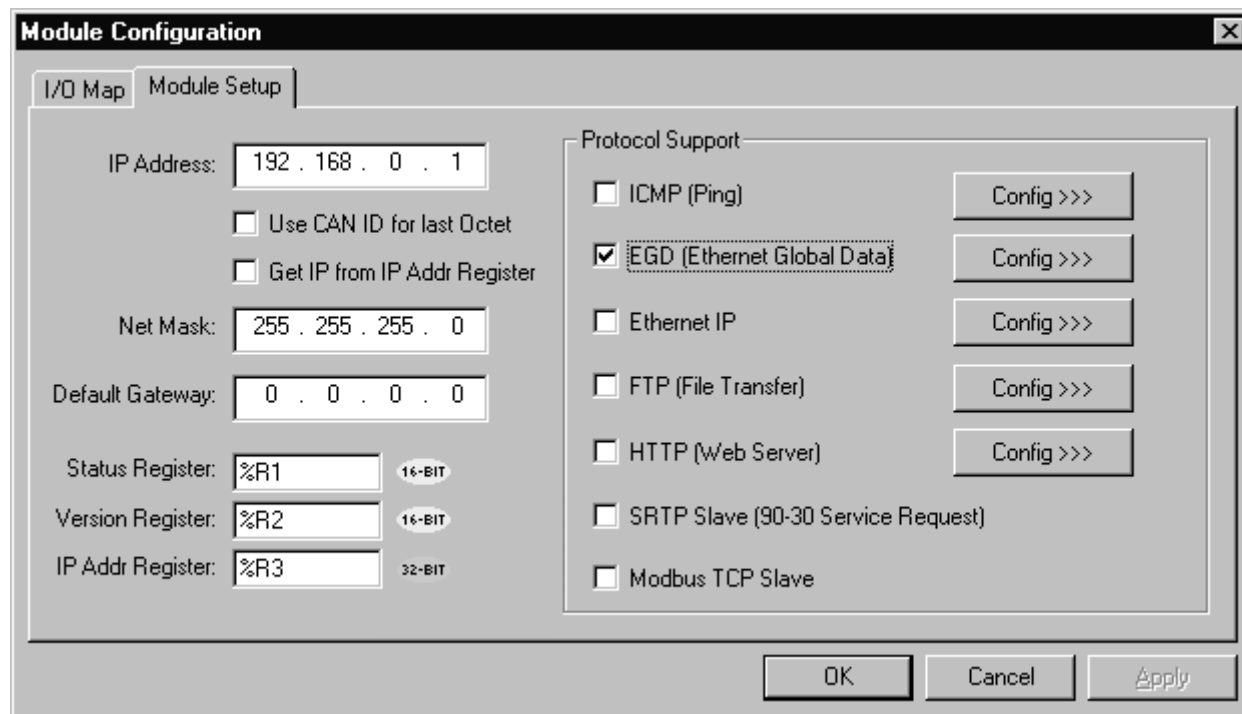

Figure 6.7 - Ethernet Module Configuration - Node 1
1. On the main Cscope screen, select **New** on the **File** menu to start a new user program. Then open the Ethernet Module Configuration dialog (Chapter 3, Figure 3.5 [page 19]), and fill in the parameters for Node 1, as shown in Figure 6.7 below.